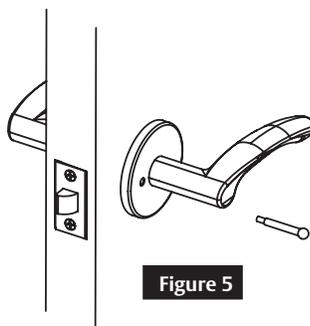

Figure 5
6. For TL3720 privacy function, install push button. See Figure 5.